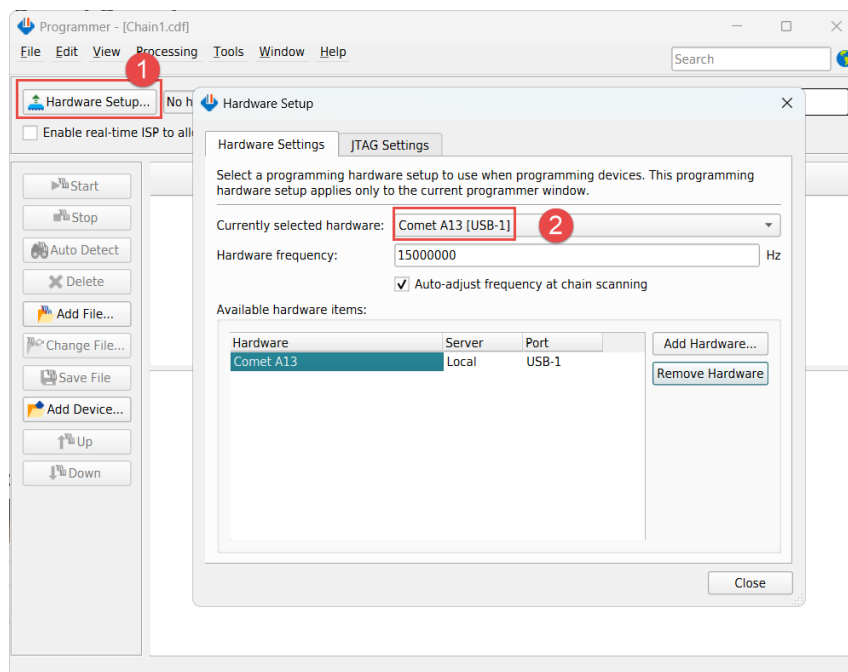

Figure 4-3 Hardware Setup
4. Select **Comet A13 [USB-1]** under **Currently selected hardware**, and click **Close** as shown in **Figure 4-3**.